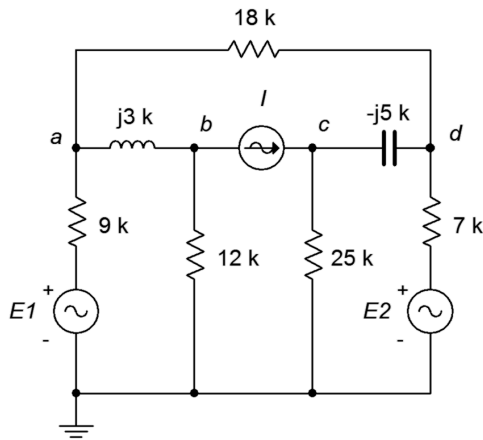

Figure 6.34
69. Given the circuit in Figure 6.34, determine v_{ad} . $E1 = 22\angle 0^\circ$, $E2 = -10\angle 0^\circ$, $I = 2\text{E}-3\angle 0^\circ$.